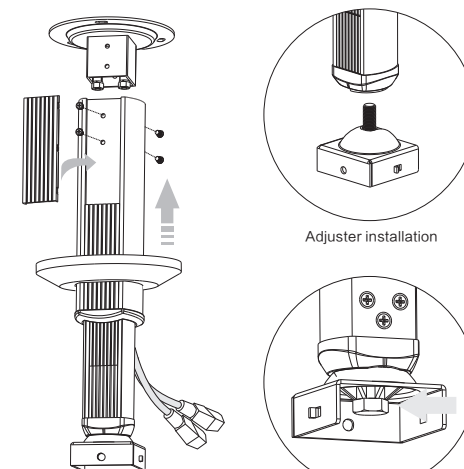

figure 4
- 2 Connect the adjuster to GPCM Main Bar, and then fasten with the screws (Accessory no. 2). Put the cables into place and fasten the screws on the on the main bar(2-1). Install the Ornament Board as figure 4.